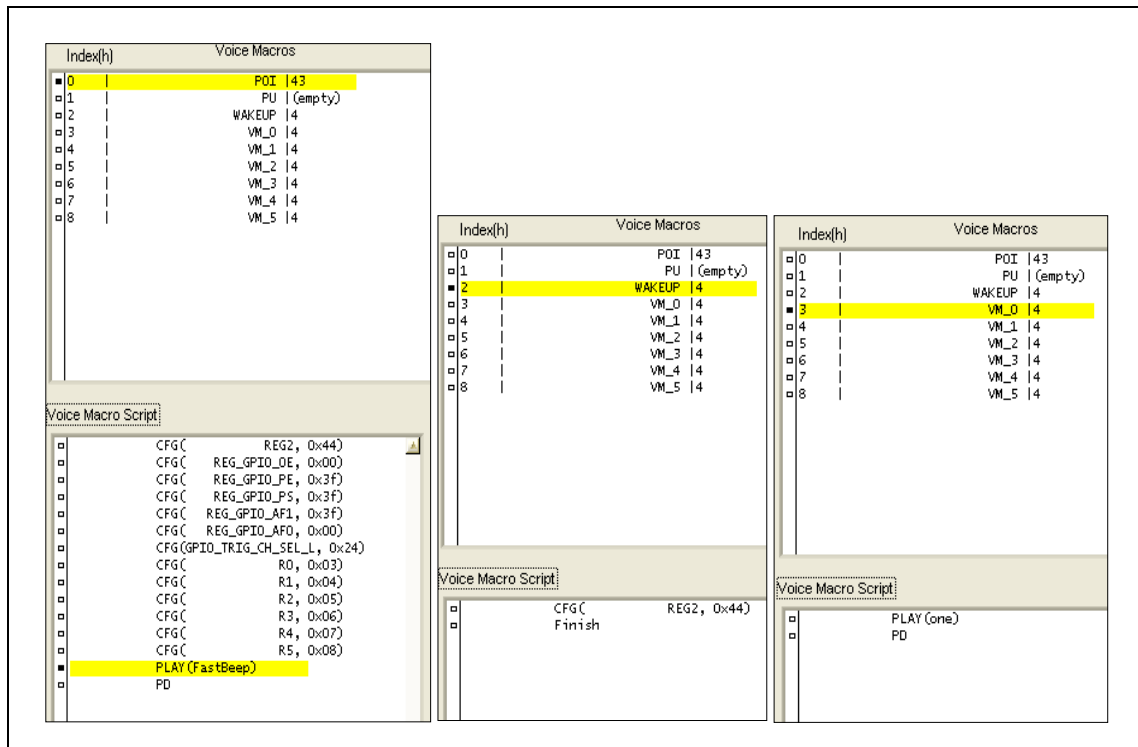

Figure 7-2 Sample_Project_1 Configuration
- See **Figure 7-2** for detailed configuration information.